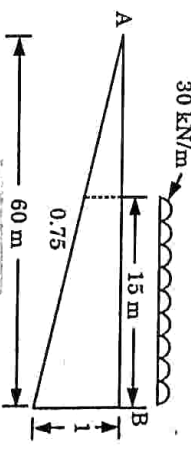

Fig. 4.14.4.
1. For maximum negative shear force the load should be placed as shown in Fig. 4.14.4.